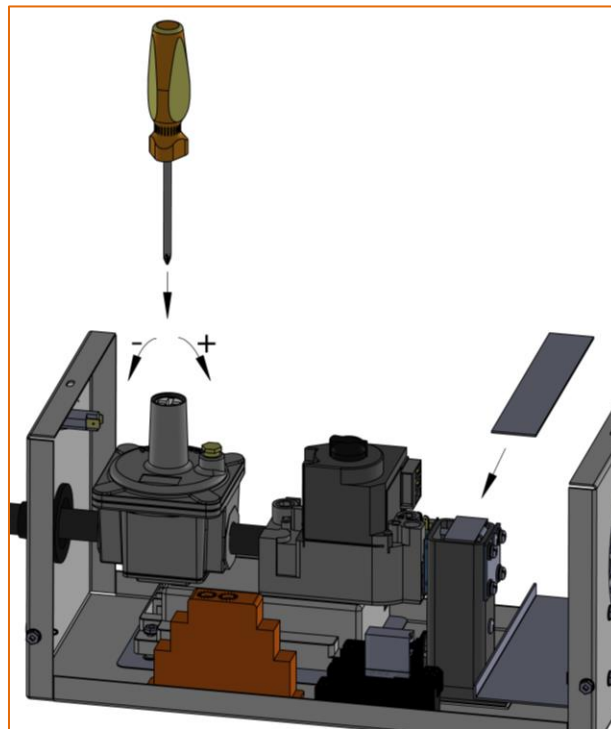

Figure 45: Adjustment of Maxitrol Zero Regulator
4. If your burner will not stay lit or will intermittently light you may need to adjust the Zero Regulator. Refer to Figure 45 and the following sequence.
NOTE: The gas valve is screwed into a square mixing chamber as seen in Figure 45. On the opposite side of the mixing chamber our air plate is screwed on.